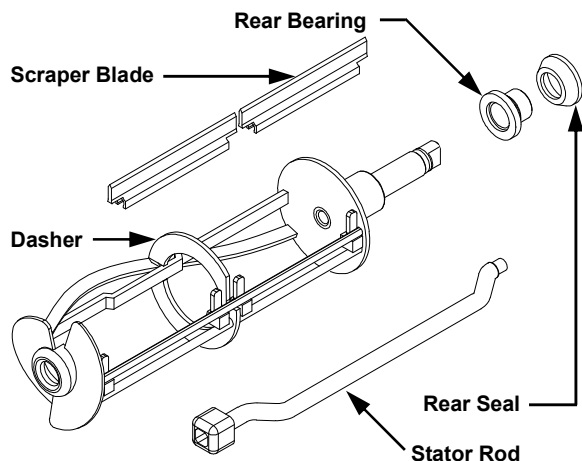

Fig. 10
9. Remove the dasher assembly (Fig. 10) being careful not to damage the scraper blades, then disassemble in the following manner:
- Remove the blades from the dasher (Fig. 10) by first rotating blade upward (Fig. 11) and then unsnapping one end from the support rod.